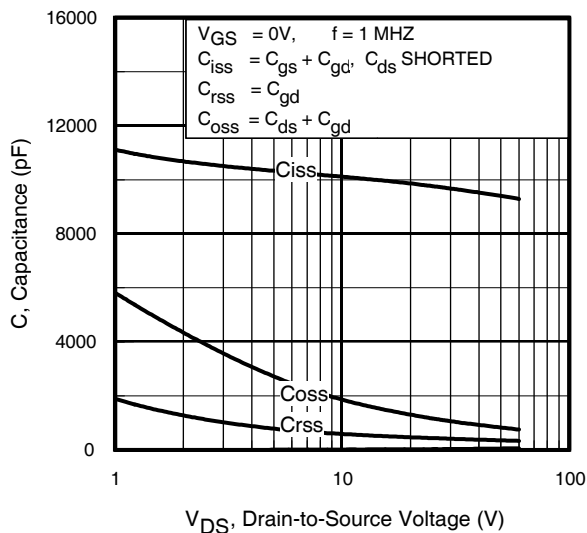

Fig 5. Typical Capacitance vs. Drain-to-Source Voltage
| $C_{oss \text{ eff. (TR)}}$ | Effective Output Capacitance (Time Related)⑥   | —    | 1260 | —    |       | $V_{GS} = 0V, V_{DS} = 0V \text{ to } 60V$ ⑥, See Fig. 5 |